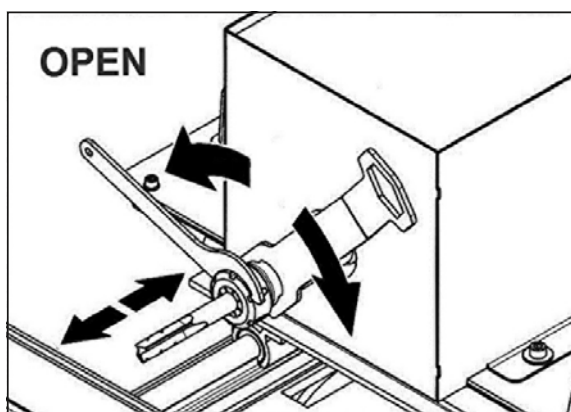

Fig.5
- To change tools (A) the machine must be stationary and disconnected from its power supply.
- Remove the protective hood (E) by unscrewing bolts (F).
- Loosen the clamping nut (D) with keys (B, C) so far until the collet becomes loose and the tool (A) can easily be removed from the chuck.
- Tighten screw to the required torque before each use (Fig 5).